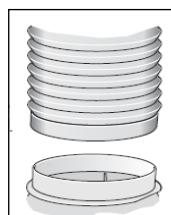

Fig. 6
Connection to exhaust air pipe (Fig. 6 & 6.1)
- Attach Ø150mm pipe directly to the air outlet and secure appropriately (Fig. 6).